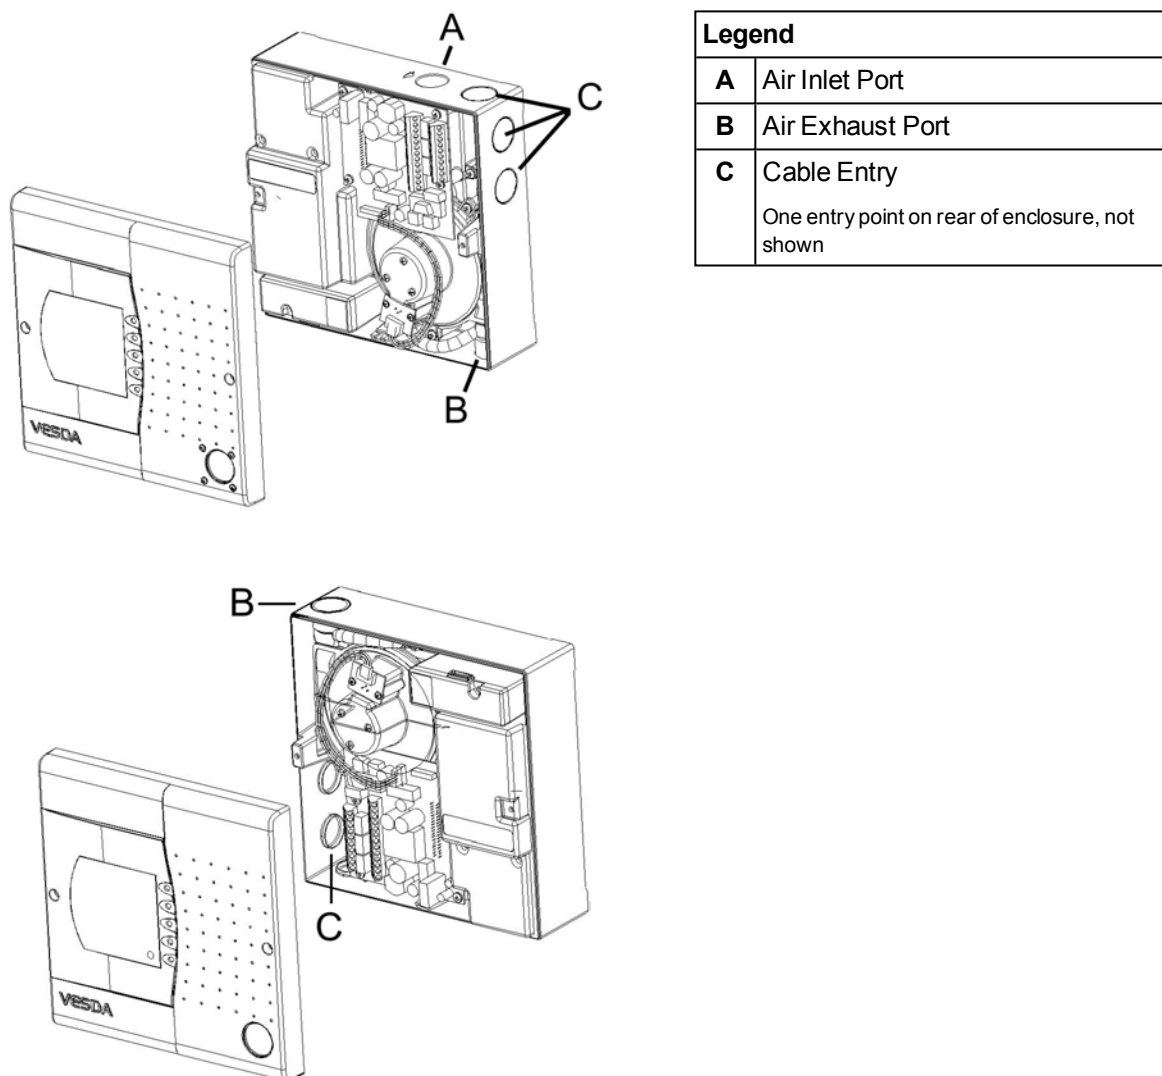

Figure 6-1: VESDA VLC Orientation, Normal (left), Inverted (right)
- Identify the location where the detector is to be mounted. The VESDA VLC can be mounted on a wall or a suitable secure surface. There are two allowable mounting positions (see Figure 6-1) for the VESDA VLC: